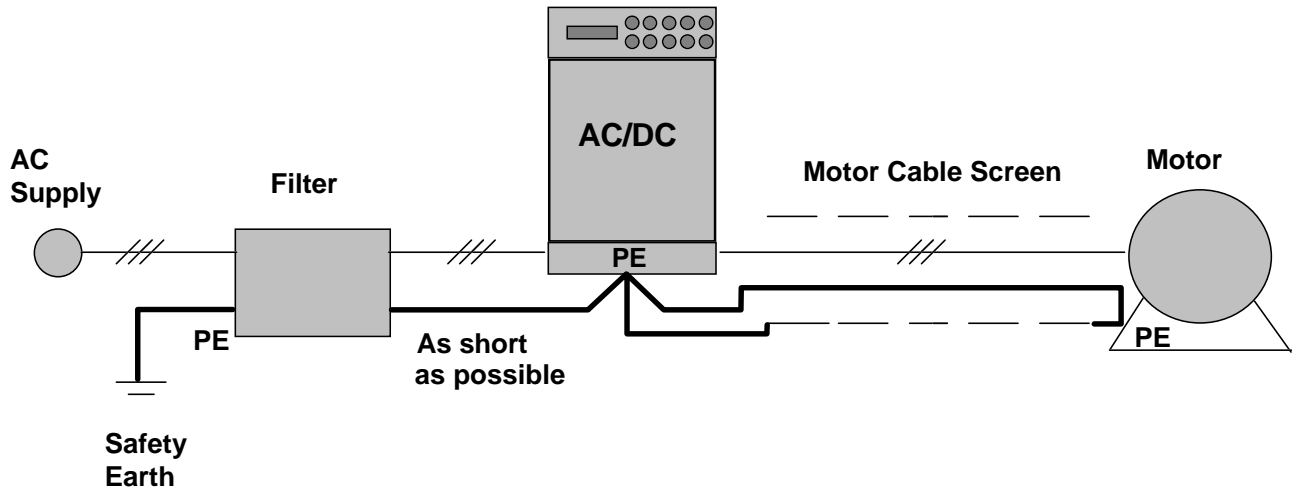

Figure 3-6: Screening and earthing of a single 584S/620 drive module.
Make sure the requirements of EN60204 are adhered to with electrical equipment for machines. Satisfactory EMC performance is only achievable when the 584S/620 drive module, filter and associated equipment is mounted on a conducting metal mounting panel. Beware of constructions using insulating mounting panels or undefined mounting structures. A single point earthing strategy should be followed for a single drive module mounted in an enclosure as shown in figure 3-6. The protective earth connection (PE) to the motor must run inside the screened cable between the motor and 584S/620 drive module, where it is to be connected to the motor protective earth terminal on the drive module. (Note in accordance with EN60204 only one protective earth conductor is permitted at each earth terminal contacting point). Local wiring regulations may require the protective-earth connection of the motor to be connected
A single-point earthing policy as shown in Figure 3-6 is required.